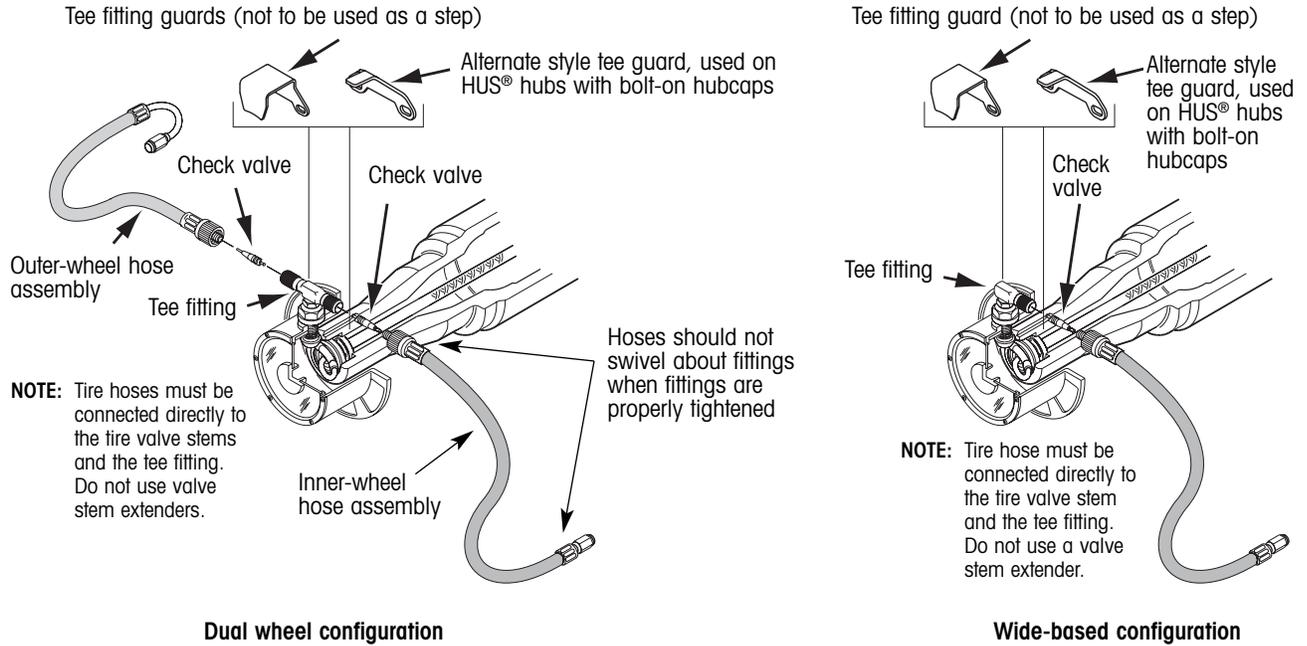

Figure 5. Tire hose, check valve and tee fitting guard installation
- Attach tire hose and check valve assemblies to the tee fitting and tighten finger tight (figure 5).
7. Attach the tee fitting guard (figure 5). Remove the two hub cap bolts closest to the rotary joint bulkhead adapter, place the tee fitting guard over the rotary joint bulkhead adapter and reinstall the hub cap bolts through the holes in the tee fitting guard. Tighten the hub cap bolts to 12 - 18 ft. lbs. (16 - 24 N•m) of torque.